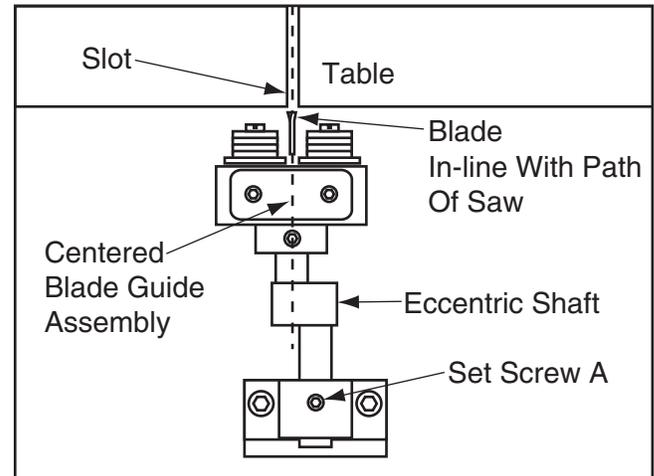
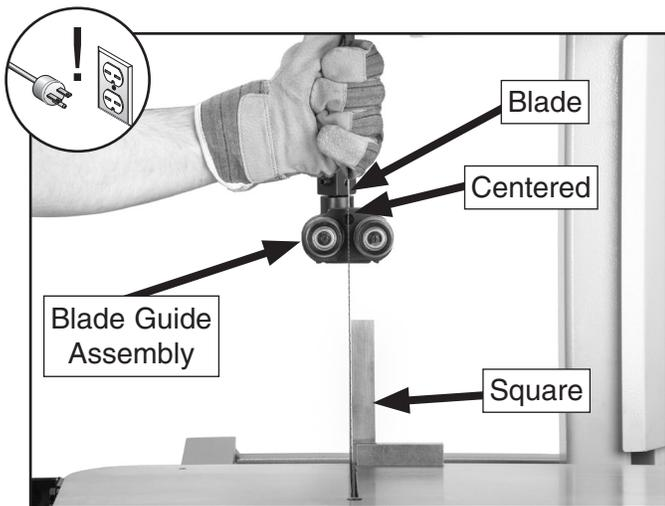

Figure 39. Lower blade guide.
Figure 41. Centered blade guide assembly.
5. Wearing gloves, hold the blade in-line with the path of the saw and centered over the slot in the table. Rotate the eccentric shaft so the blade guide assembly is centered over the blade, as shown in **Figure 39**, then tighten set screw A.
- Wearing gloves, hold the blade square to the table. Rotate the eccentric shaft (**Figure 39**) so the blade guide assembly is centered over the blade, as shown in **Figure 41**, then tighten the cap screw located in the bottom of the guide post.